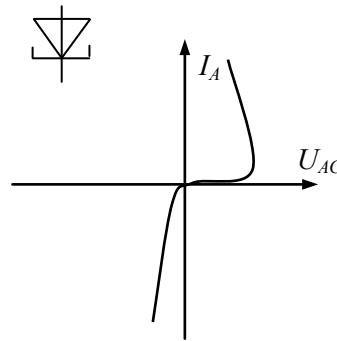

Fig. 1.15
**Tunnel diode.** Diodes with a breakdown level equal to zero are called *tunnel diodes*, or *Shockley diodes*. The tunnel diode is a heavily doped diode that is used in high-frequency communication circuits for such applications as amplifiers, oscillators, modulators, and demodulators. The unique operating curve of the tunnel diode is a result of the heavy doping used in the manufacturing of the diode. The tunnel diode is doped about one thousand times as heavily as a standard  $pn$ -junction diode. This type of a diode exhibits a negative resistance. This means that a decrease in voltage produces an increase in current (Fig. 1.15). The negative resistance is useful in high-frequency circuits called oscillators, which create the sinusoidal signals.